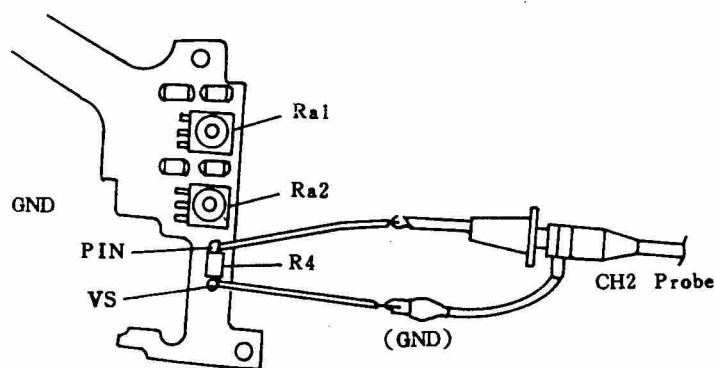

Fig 75
6. Connect the CH 2 probe to R4 (PIN) and the GND of CH 2 probe to R4 (VS). (Fig 75).
3. Take off Tr7. (Fig 75).
4. Connect R3 (560  $\Omega$ ) directly to GND. (Fig 75).
6. Connect the CH 1 probe to Collector of Tr4. (Fig 75).